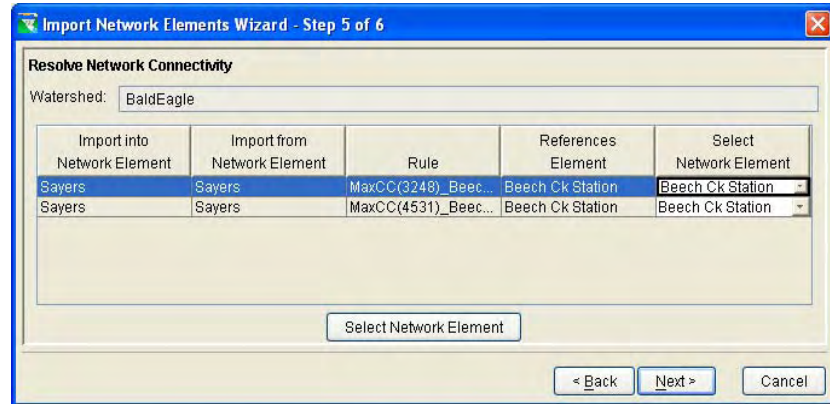

Figure 11.131 Import Network Elements Wizard – Step 5 of 6 (Resolve Network Connectivity)
6. Select **Next** to continue and the **Import Network Elements Wizard – Step 5 of 6** will appear (Figure 11.131). Resolve network connectivity by choosing the element in the **Select Network Element** column that you would like the corresponding rule to be applied to. In most cases, what is chosen in the **Select Network Element** column will match the network element in the **References Element** column.